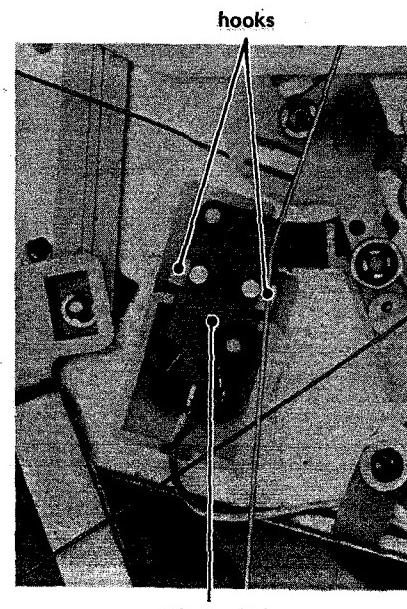

Fig. 3-6
2. The microswitch can be removed by expanding the corresponding hooks (refer to Fig. 3-6).